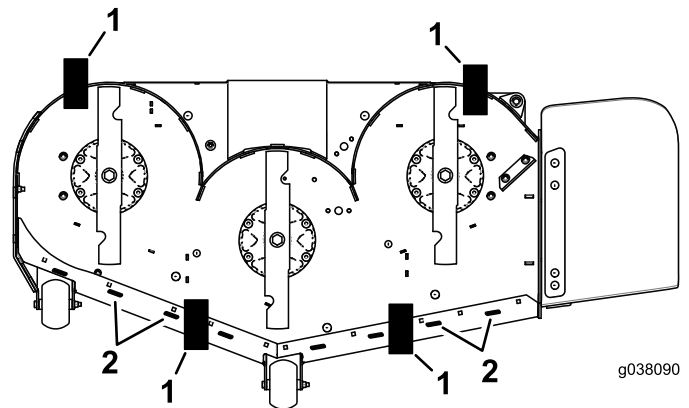

Figure 109
- Place 2 blocks (see Block Height and Rake Table) under the rear edge of the cutting deck skirt; 1 on each side of the cutting deck (Figure 109).